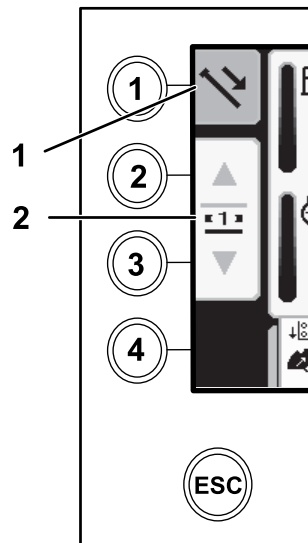

Figure 24
1. Push button 1 to select push pipe (Figure 24).
2. Push buttons 2 and 3 to select the row where you want to get the pipe (Figure 24).